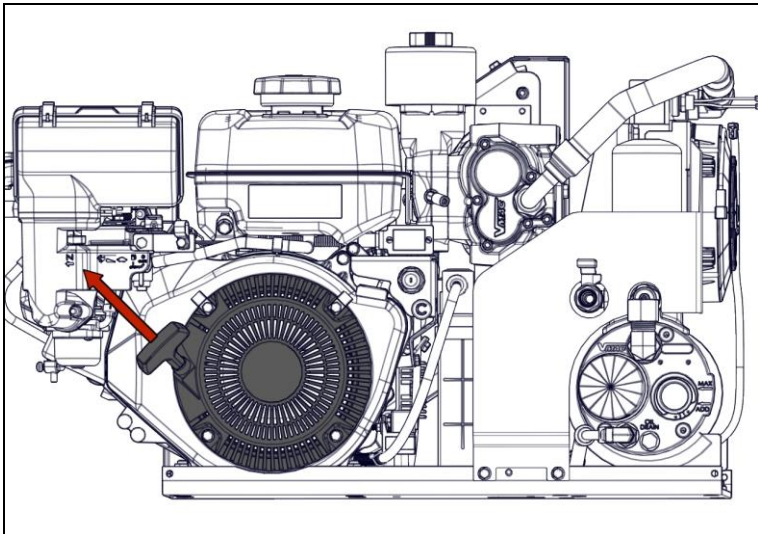

Figure 25 – Recoil starter
- 3) Pull the recoil starter handle gently until resistance is felt, allow the handle to return to its original position then pull swiftly. Do not pull out the cord all of the way. Once the engine has started gently return the handle to its original position (Figure 25).